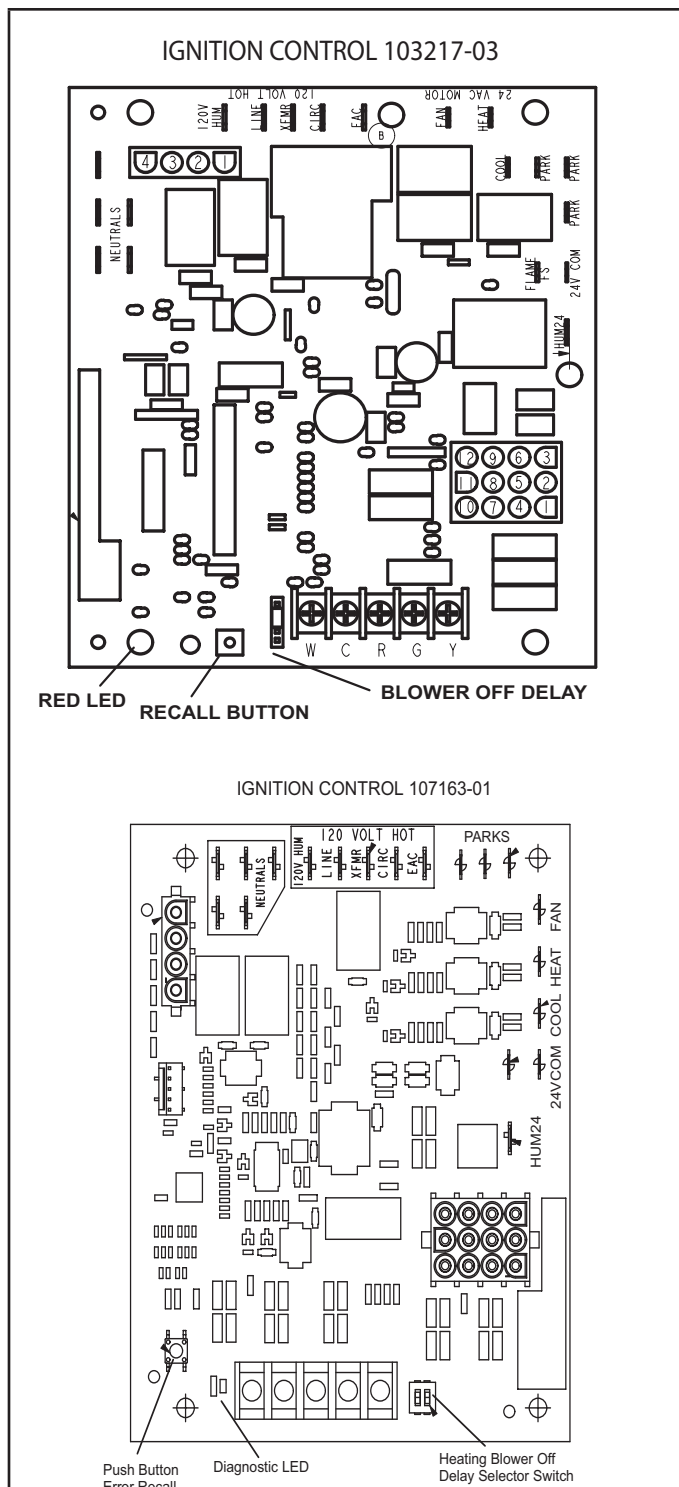

FIGURE 3
The hot surface ignition control system consisting of an integrated control (FIGURE 3 with control terminal designations in TABLE 1, TABLE 2 and TABLE 3), sensor and ignitor (FIGURE 5). The integrated control and ignitor work in combination to ensure furnace ignition and ignitor durability. The integrated control, controls all major furnace operations. The integrated control also features a RED LED for troubleshooting and two accessory terminals rated at (1) one amp. The nitride ignitor is made from a non-porous, high strength proprietary ceramic material that provides long life and trouble free maintenance.